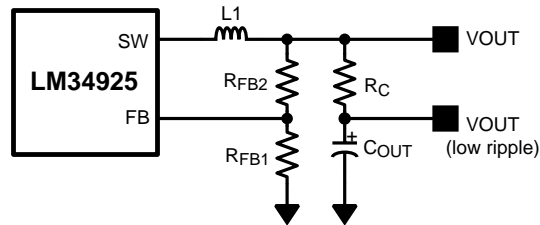

Figure 13. Low Ripple Output Configuration
This regulator regulates the output voltage based on ripple voltage at the feedback input, requiring a minimum amount of ESR for the output capacitor (C_{OUT}). A minimum of 25 mV of ripple voltage at the feedback pin (FB) is required for the LM34925. In cases where the capacitor ESR is too small, additional series resistance may be required (R_C in Figure 13).
For applications where lower output voltage ripple is required the output can be taken directly from a low ESR output capacitor, as shown in Figure 13. However, R_C slightly degrades the load regulation.